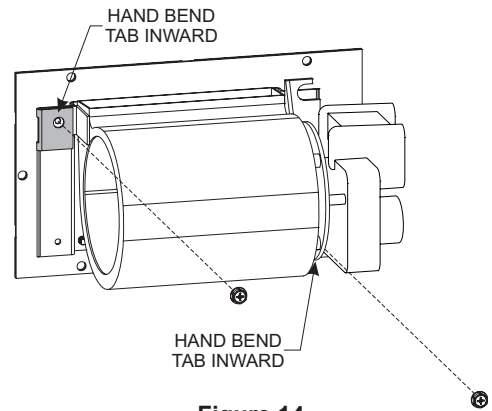

Figure 14
6. Bend tab as shown in Figure 14 and secure with (2) screws.